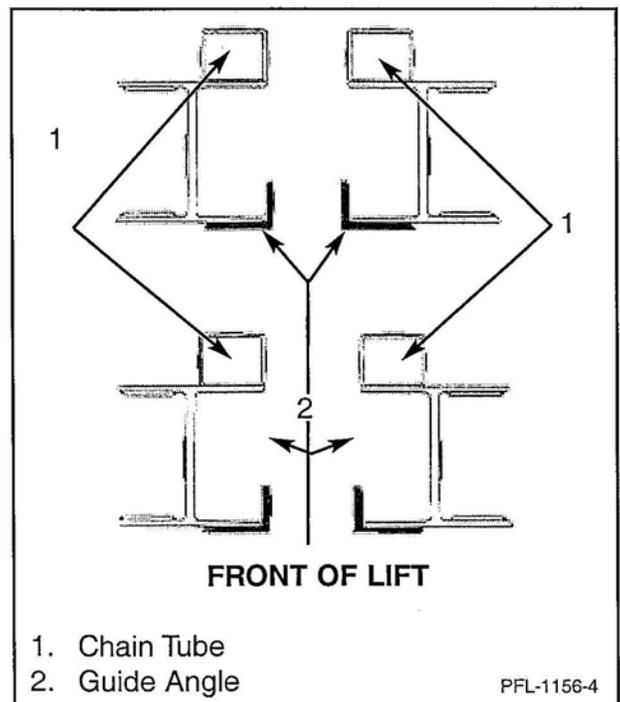

Figure 8
- IMPORTANT:** Each column must be correctly installed. There is only one right way. The front of the lift for orientation is as follows: The face of the column with the guide angle to the inside of the column should be positioned toward the front of the lift. The face of the column with the chain tube should be positioned toward the back of the lift. See Figure 8. (If you need to change the orientation because of site conditions, please call Pflow Industries.)